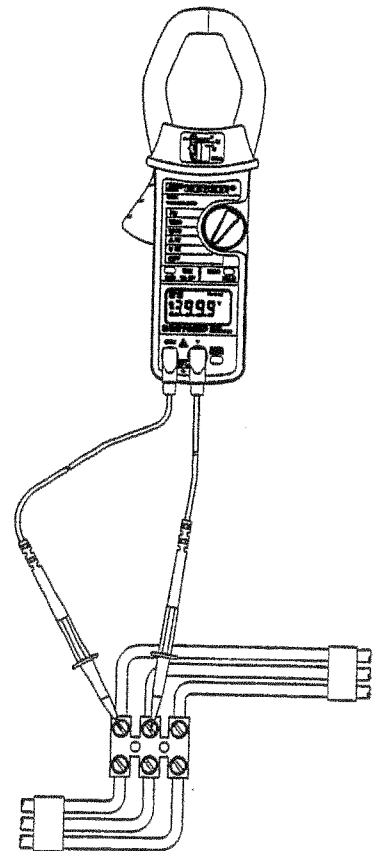

Fig. 3
- Insert the test leads into the sockets on the front of the instrument, the red lead to the V Ω terminal and the black lead to the COM terminal, as shown in Fig. 3.
- To measure the frequency of the voltage supply apply the test leads to the circuit as shown in Fig. 3 and read the display